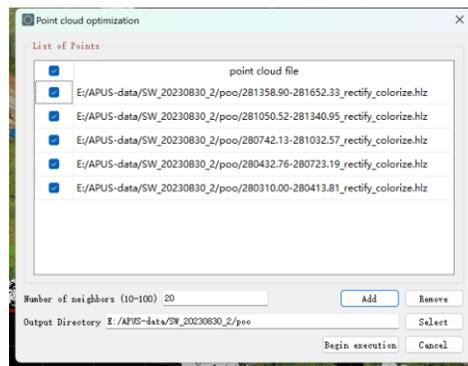

Figure 3-172 Point Cloud Optimize
- Click <Toolbox> → <Data Process> → <Process> → <Point Cloud Optimize> on the main interface, and a dialog box will pop up (Figure 3-172).